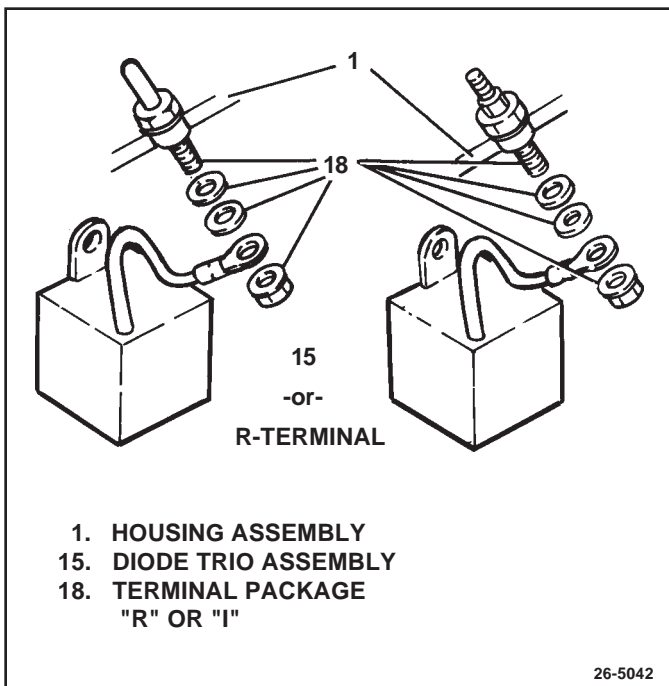

Figure 41. Connecting "R" Terminal
- Place "R" or "I" terminal (18) into hole in rectifier housing (1). Place insulating washer and plain washer onto stud inside housing. (See Fig. 41) If alternator uses "R" terminal, place yellow "R" terminal lead from diode trio assembly (15) onto inside terminal stud (18). If alternator has "I" terminal, install indicator light lead assembly onto inside terminal stud. Install inside terminal nut. Hold external hex portion of terminal as anti-turn.